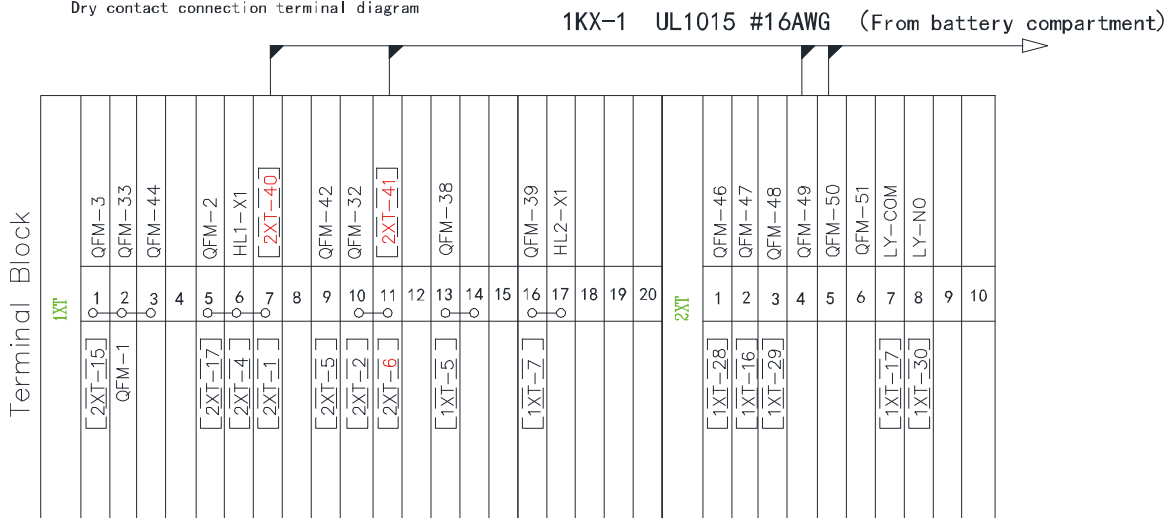

Fig. 3-15 Dry Contact Terminal
1. The external power supply and dry contact wiring of the PCS skid are shown in Fig. 3-15 below: